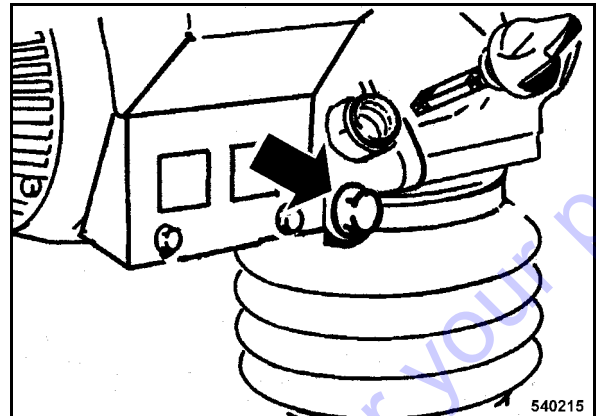

Fig. 37
- Unscrew the oil drain plug (Fig. 37), let the old oil run out and catch it.